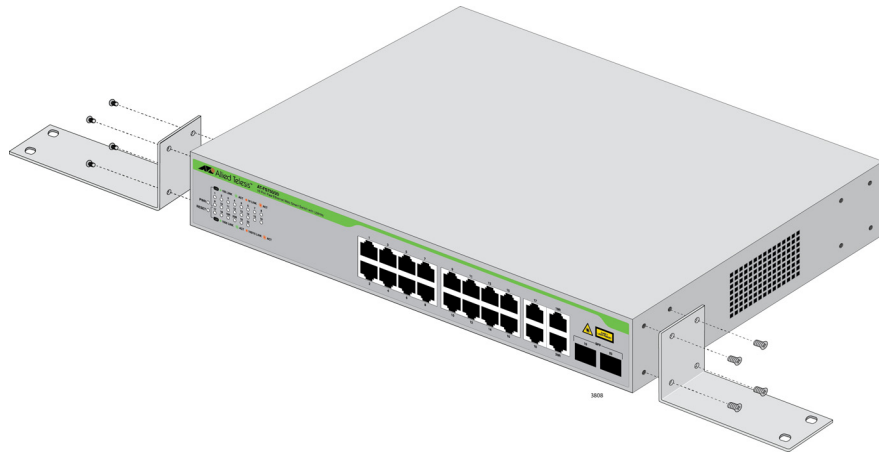

Figure 8. Attaching the Brackets to Install the Switch on a Wall
3. Orient the brackets against the sides of the switch as shown in Figure 8, and secure them to the unit with the eight brackets screws included with the switch.